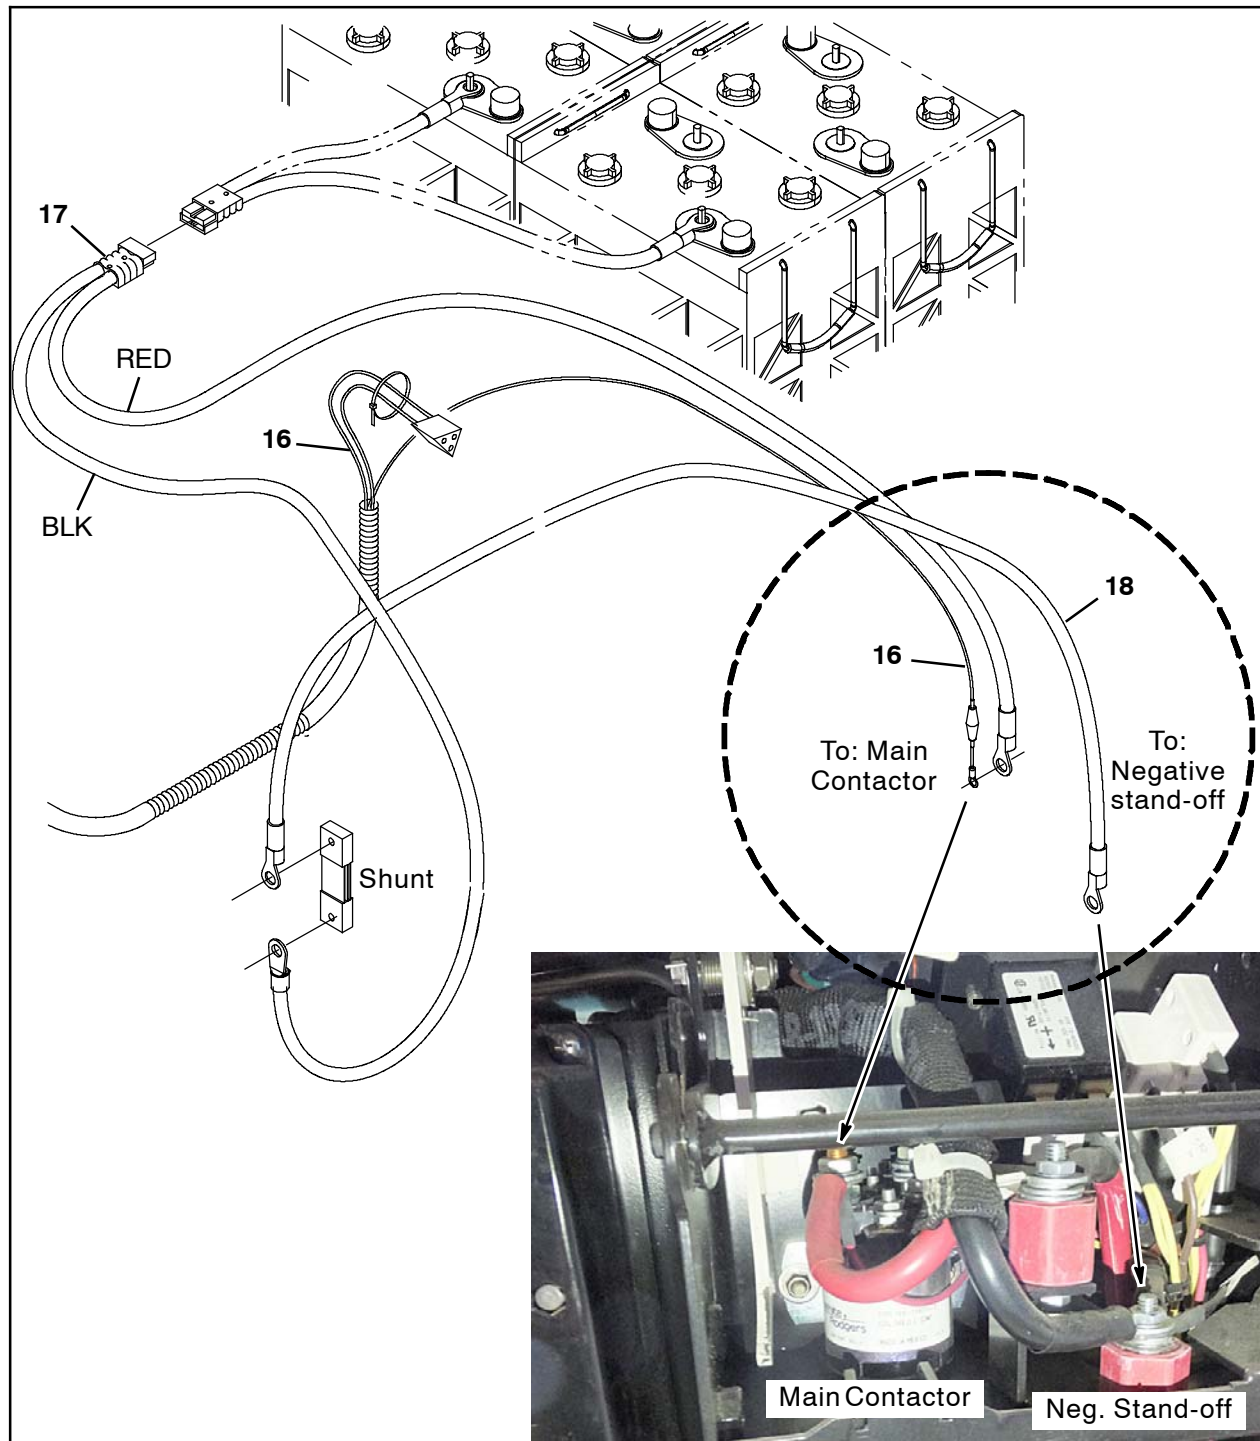

Fig. 13
16. Route and connect the battery cable assembly (17) to the M1 main contactor where the removed red battery cable was previous installed. (Fig. 13)
17. Route and connect the red fuse wire from telemetry harness (16) to the M1 main contactor where the removed red battery cable was previous installed. (Fig. 13)
18. Route and connect the black shunt cable (18) to the negative ground stand-off where the removed battery cable was previous installed. (Fig. 13)